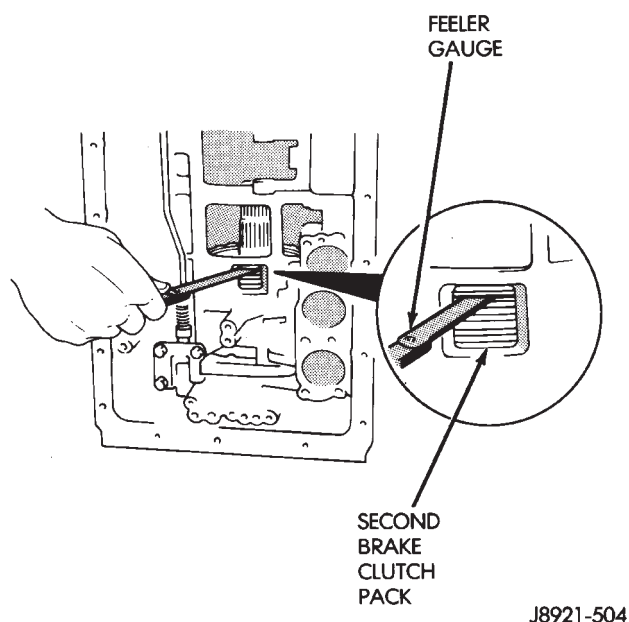

Fig. 38 Checking Second Brake Clutch Pack Clearance
(47) Measure second brake clutch pack clearance (Fig. 38). Clearance should be 0.62 - 1.98 mm (0.0244 - 0.0780 in.). Replace discs if clearance is not within specifications.